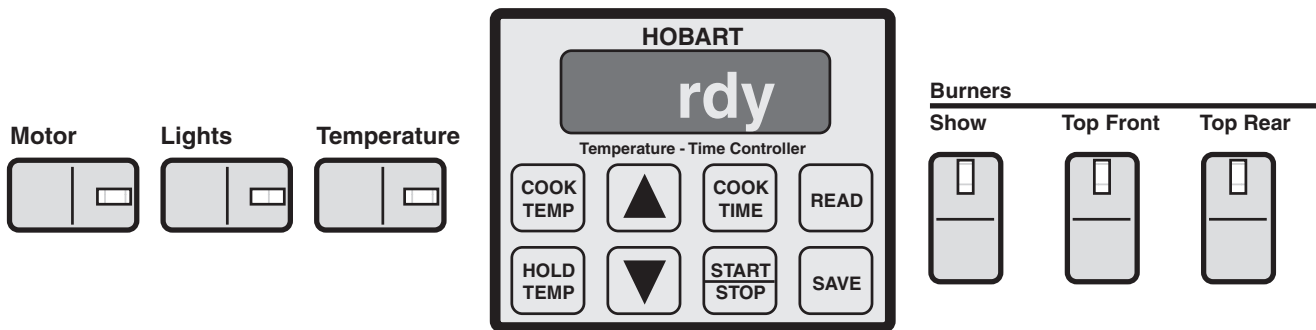

Fig. 30
- Press the Temperature switch on (Fig. 30).